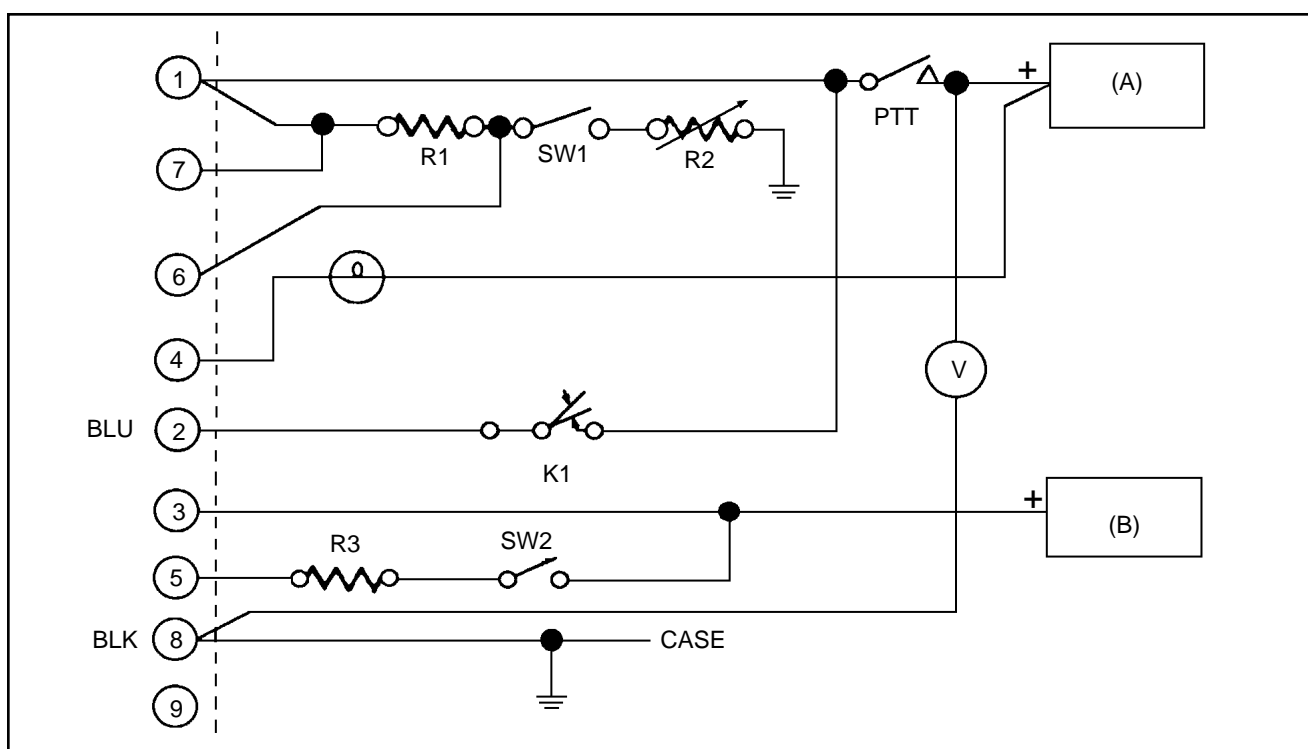

Figure 24-9. Overvoltage Test of ACU (Procedure D) (28 VOLT)
1. The procedure for testing the regulator whether on the airplane or on the test bench remains the same. Connect the test meters and regulator wiring as shown in Figure 24-9.
4. With the connections made as shown in Figure 24-9, start the engine and adjust its speed to approximately 920 to 1250 rpm to obtain 3,000 to 4,000 alternator rpm. Turn on accessories as needed to establish a 10 to 15 ampere load value. Note that the battery charge current is indicated by the ammeter. Therefore, the current value may change downward at the beginning of a test run. This will be especially true if the battery was used for engine starting.